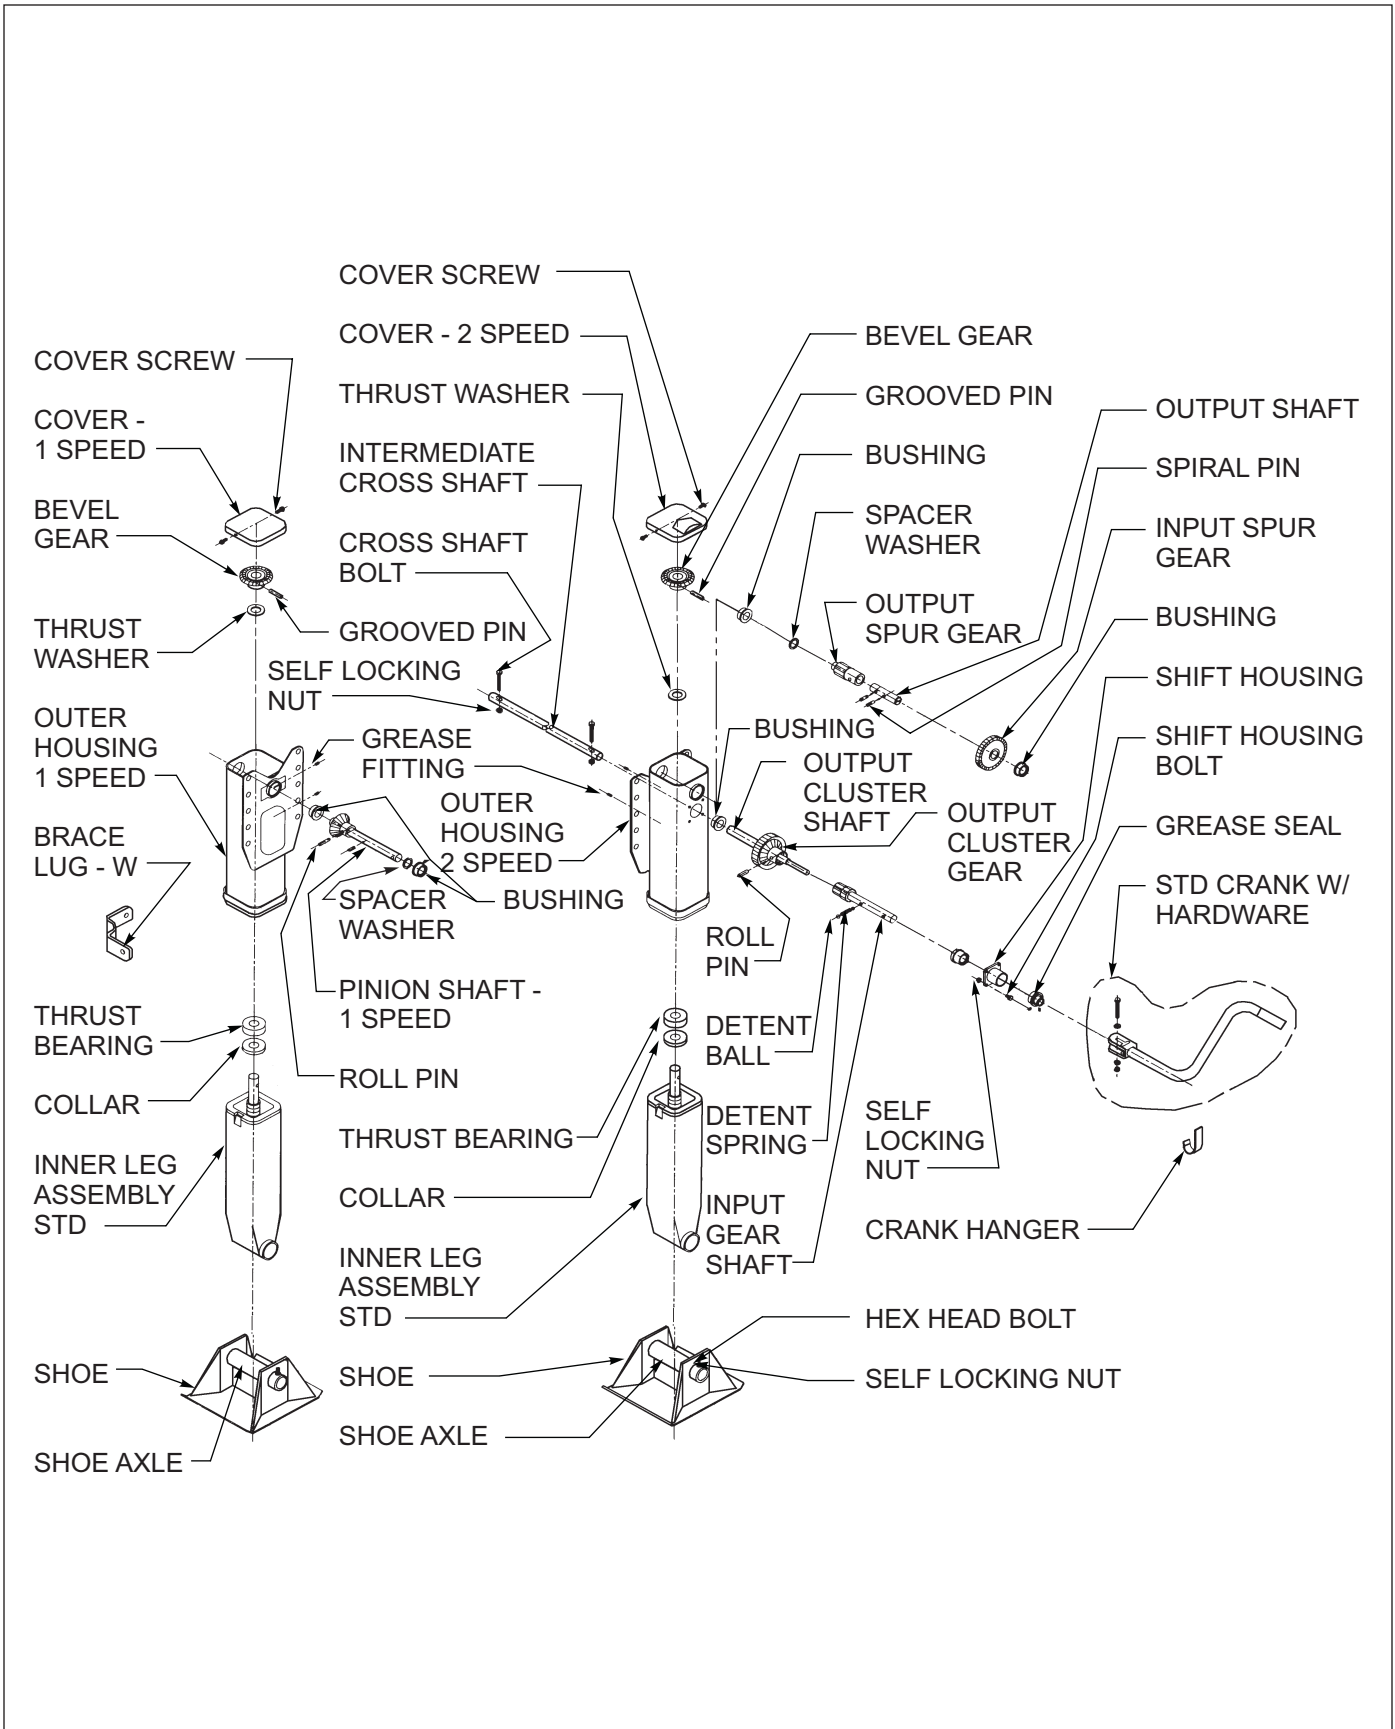

Figure 4-28: Crank Landing Gear Assembly
2. The elevating screw is lubricated by the lower grease fitting located on the upper housing in **Figure 4-28**.